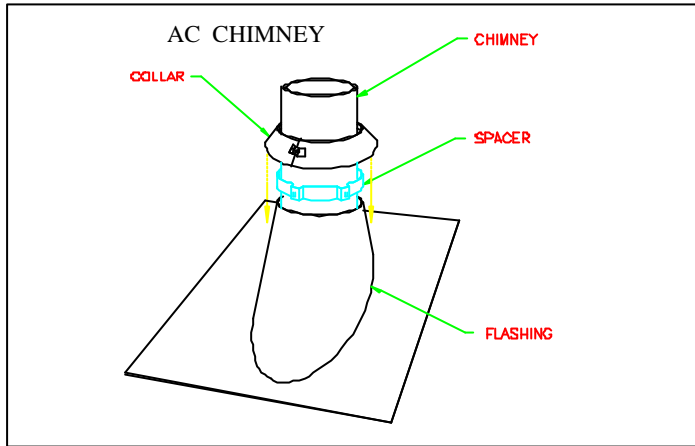

Figure 29
5. Then, put the roof flashing in place and seal the joint between the roof and the flashing with roofing pitch. (see figures 29 & 30). For sloping roofs, place the flashing under the upper shingles and on top of the lower shingles. Nail the flashing to the roof, using roofing nails.